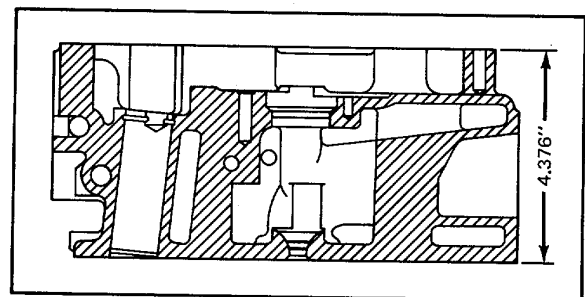

Figure 4. Minimum Distance Between Top and Bottom Faces of Cylinder Head
c. If the head is to be refaced, remove the injector tubes prior to machining. Do not remove more metal from the fire deck of any cylinder head below the minimum distance of 4.376 inches (Fig. 4).